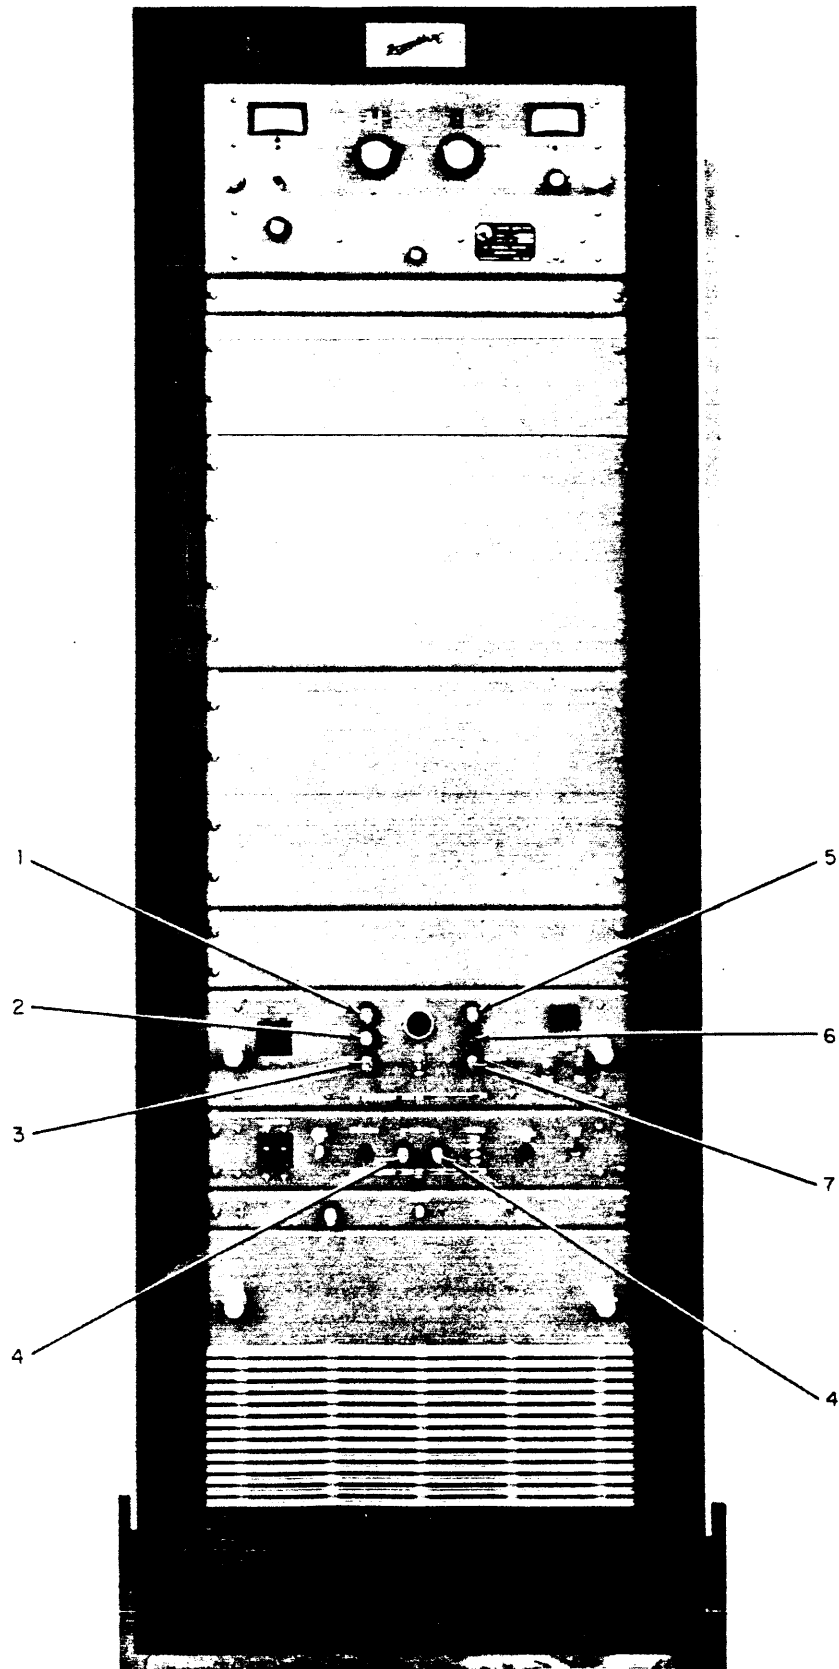

Figure 5-1. Fuse Location Drawing
- (2) Fuse location drawing (figure 5-1)
- (3) Fuse functions (table 5-2)
- (4) System overload and Bias setting procedure
- (5) Maintenance programs (for troubleshooting)
- b. FUSE CHECKS - Should a malfunction occur, a visual check of fuses on the system must be performed. (All fuses are indicating type; refer to figure 5-1 for fuse location.)